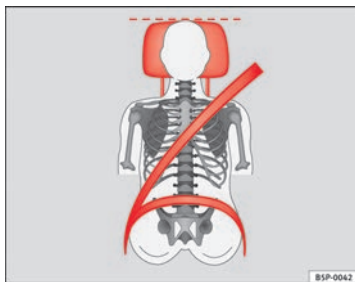
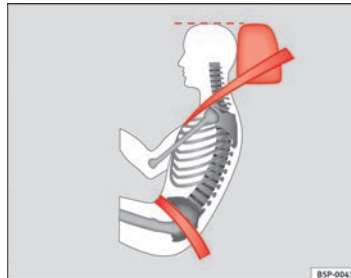

Fig. 90 Front view: head restraints and seat belts correctly adjusted
Fig. 91 Side view: head restraints and seat belts correctly adjusted
- Adjust the head restraint so that the top is at the same level as the top of your head or as close as possible to the same level as the top of your head, at least at eye level ⇒ Fig. 90 and ⇒ Fig. 91.